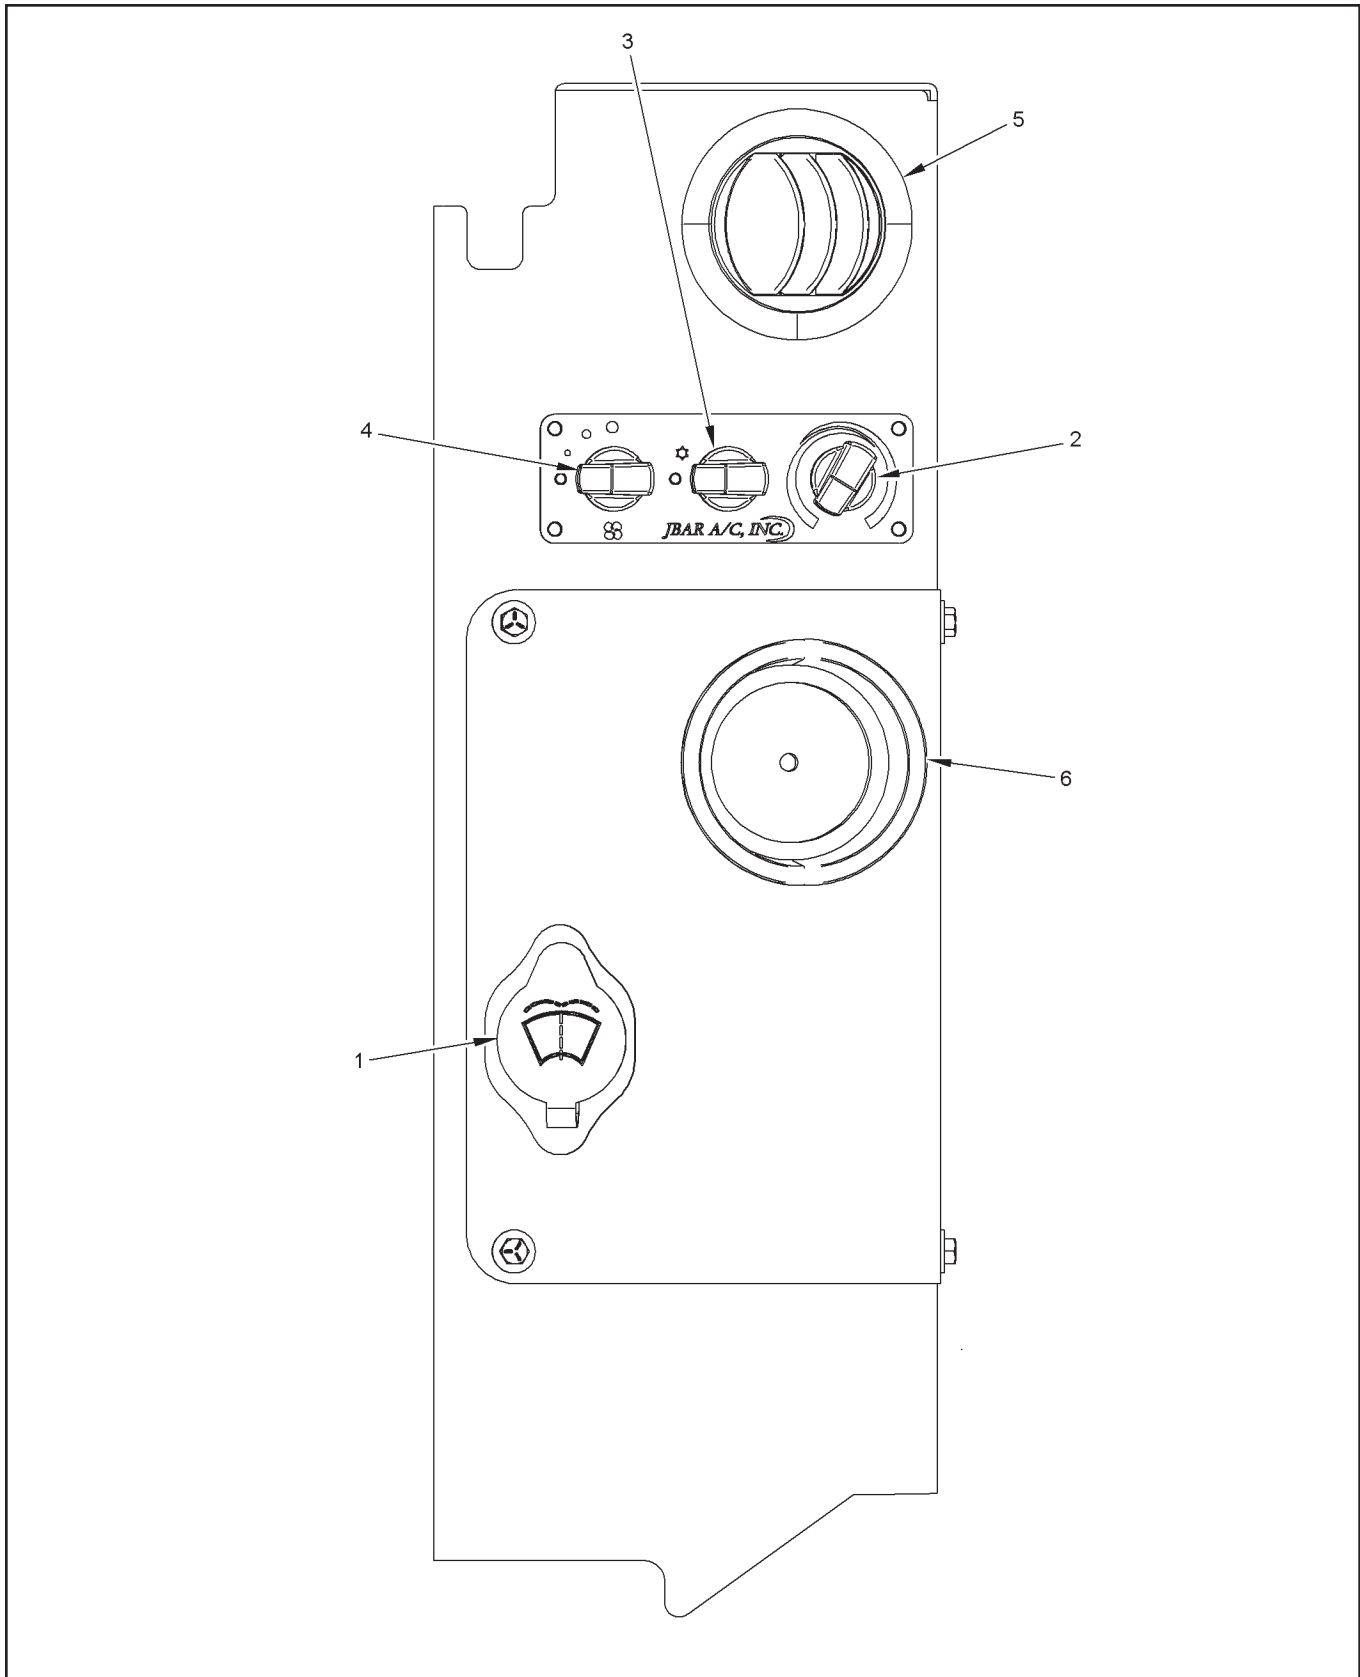

Figure 5-2. AIR CONDITIONING CONTROL PANEL
**Table 5-2. AIR CONDITIONING CONTROL PANEL (see Figure 5-2)**